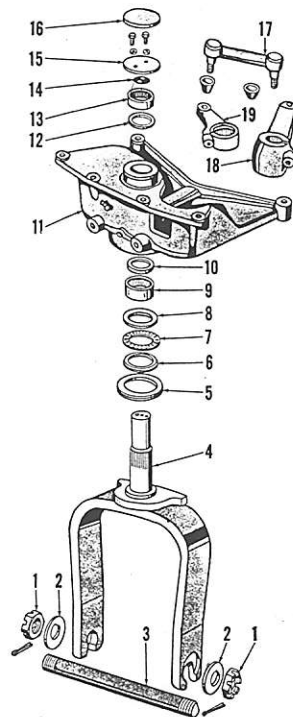

Fig. 5—Exploded view of single wheel fork, support casting and associated parts used on models so equipped.
6. The fork-mounted single front wheel is carried in taper roller bearings which should be adjusted to provide a very slight rotational drag by removing the cotter pins and tightening or loosening the castellated spindle nuts (1—Fig. 5).